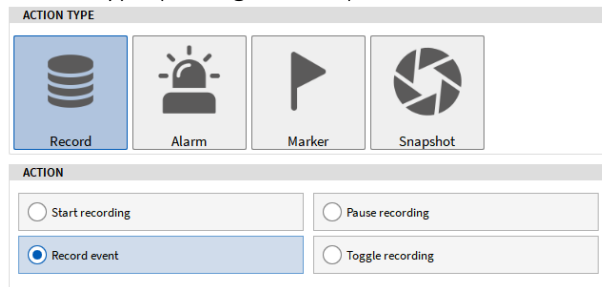

Figure 7-27: Record Event Action Type
- Select *Record Event* as Action Type (see Figure 7-27):